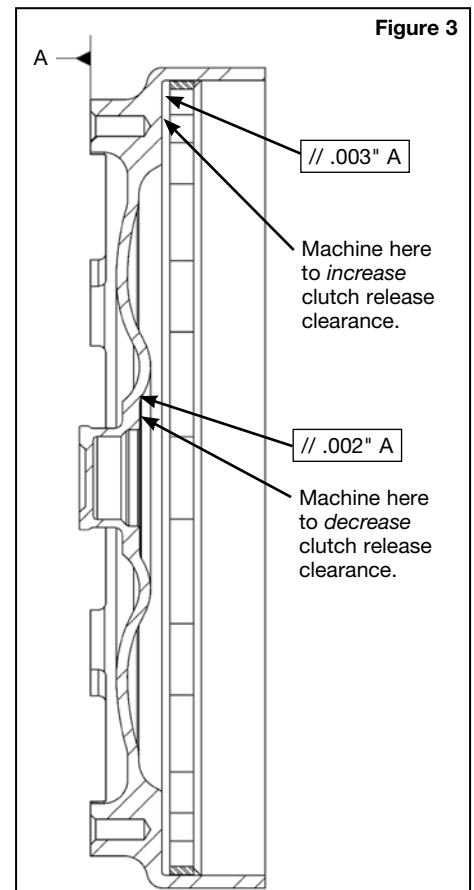

Figure 3
- If there is too much clutch release clearance, machine the thrust surface of the front cover by the amount that you want to reduce the clutch release clearance (**Figure 3**). Make sure to maintain a RA 16 micro-inches surface finish and keep the thrust surface parallel to the mounting pads within .002". If you want to increase the amount of clutch release clearance, machine the lockup surface of the front cover by the amount you want to increase the travel. Make sure to keep the surface finish better than RA 20 micro-inches and parallel to the mounting pads (see "A" in **Figure 4**) within .003".